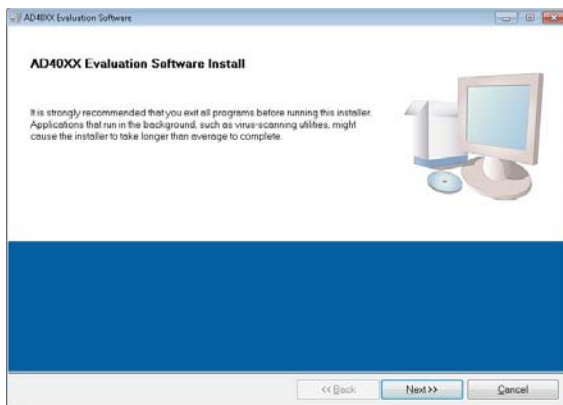

Figure 4. **AD40XX Evaluation Software Install Window**
1. Launch the evaluation board software installation by clicking the **setup.exe** file. The software installation window opens, as shown in Figure 4.